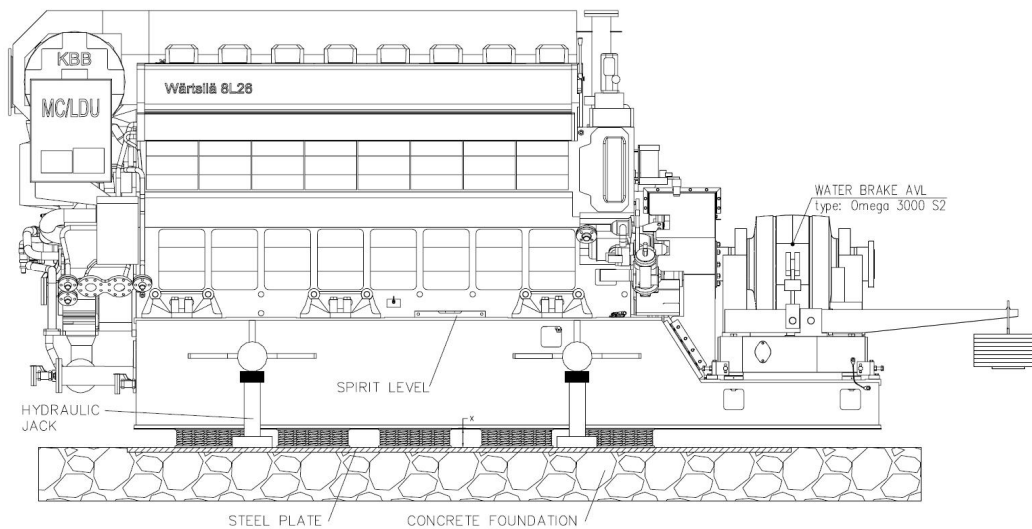

Figure 3. Installation
5. Measure and record the distance X (see figure 3) between CBF bottom plate and steel plate foundation at each spring package location. The maximum allowed difference in compression between any steel spring packages is 4 mm.